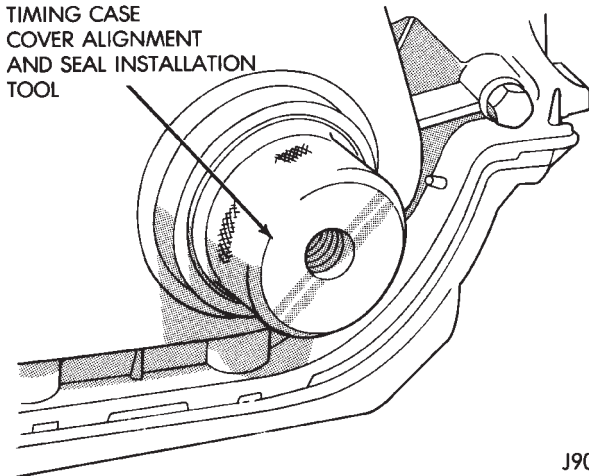

Fig. 42 Timing Case Cover Alignment and Seal Installation Tool 6139
- (3) Position the gasket on the cylinder block.
- (4) Position the timing case cover on the oil pan gasket and the cylinder block.
- (5) Insert Timing Case Cover Alignment and Seal Installation Tool 6139 in the crankshaft opening in the cover (Fig. 42).